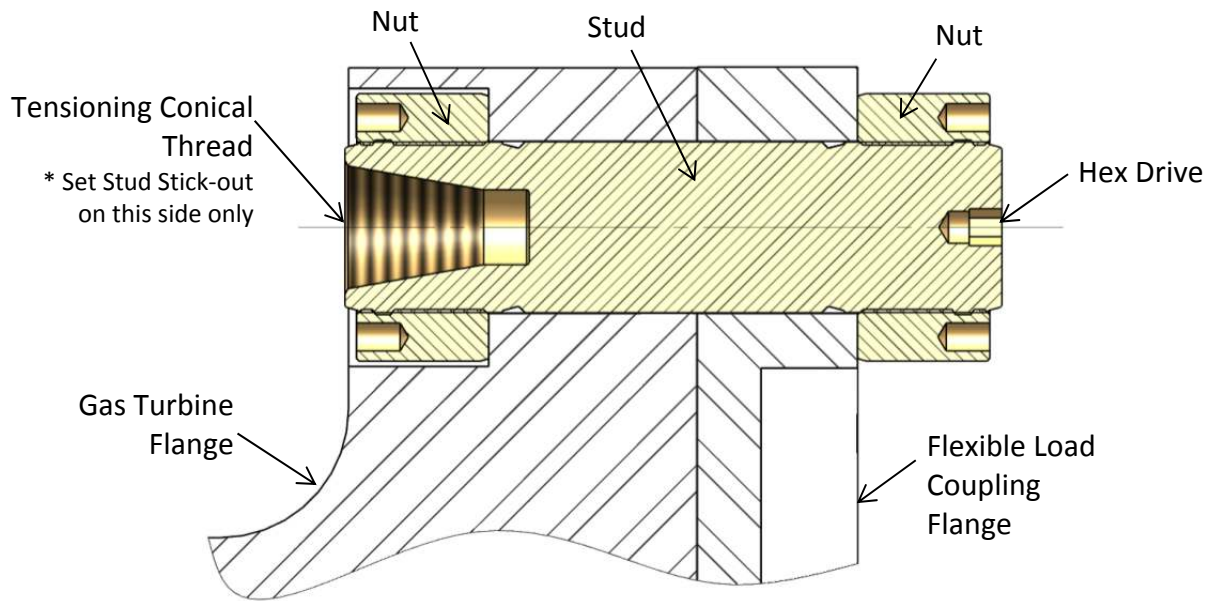

Figure 6A – Cross-section View of Gas Turbine to Flexible Load Coupling Bolted Flange Connection
2. Slide the stud and cylindrical nut assembly into the flange as shown in Figure 6A.